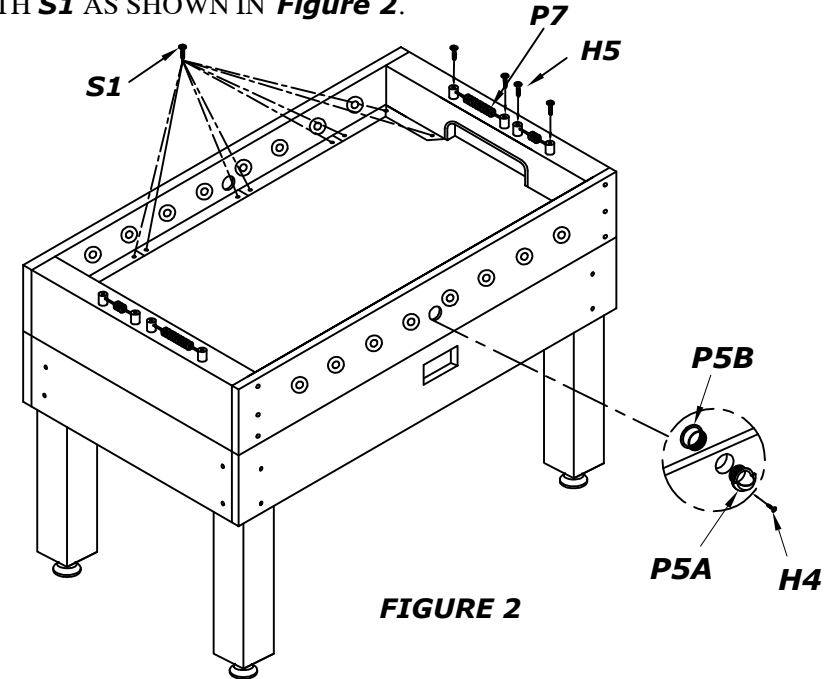

FIGURE 2
2. ATTACH BALL ENTRY CUPS **P5A** AND **P5B** TO THE SIDE PANELS WITH SCREWS **H4** AS SHOWN IN **figure 2**.
3. ATTACH THE PLASTIC **#2a, #2b, #3a, #3b**, TO THE PLAYING FIELD WITH **S1** AS SHOWN IN **Figure 2**.